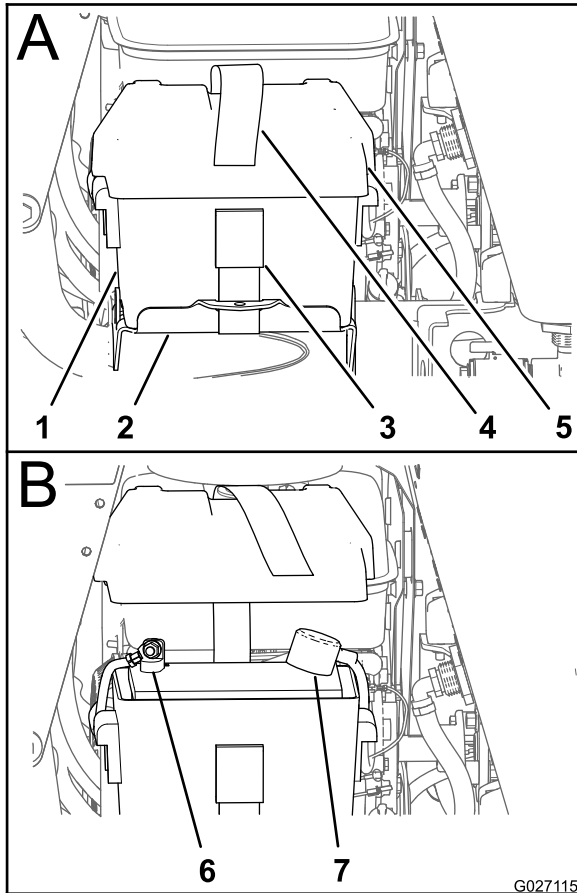

Figure 4
1. Remove the battery cover from the battery box (Figure 4).
2. Install the negative battery cable to the negative (-) battery terminal with a flanged bolt and flanged nut (Figure 4).
3. Install the cover on the battery box and secure the cover and box to the battery tray with the battery strap (Figure 4).